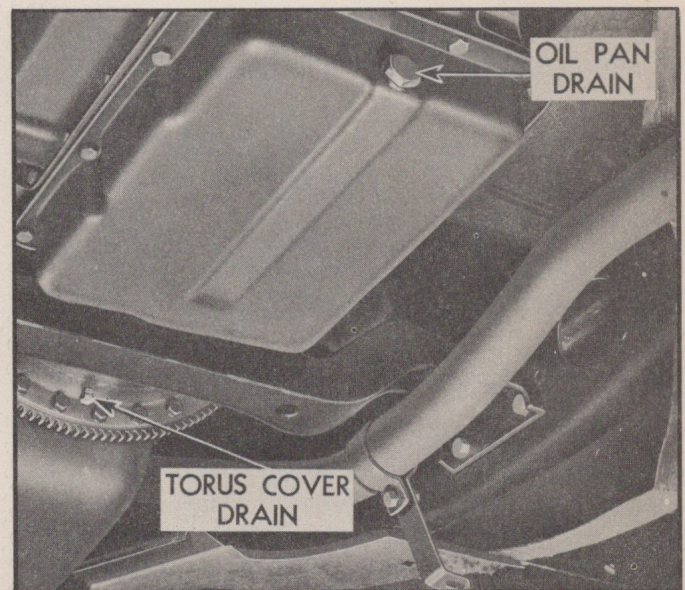

Fig. 81—Hydra-Matic Transmission Drain Plugs
2. Remove hex head pipe plug from torus cover (Fig. 81) using SIX-POINT socket (never use a twelve point socket as this will damage head of soft pipe plug).